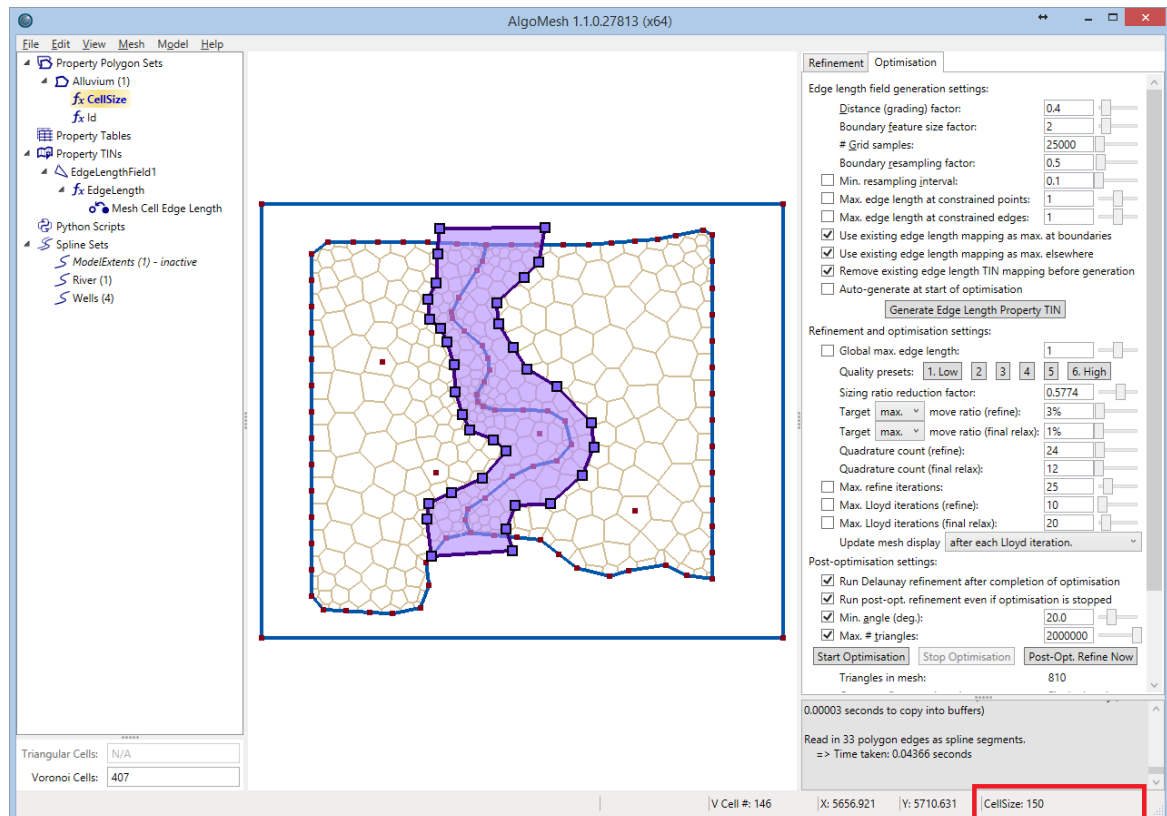

Figure 54: The value of the currently selected property at the mouse cursor position is shown on the right-hand side of the status bar.
- Now move the mouse cursor over the top of the alluvium polygon in the mesh view. You should see the value 150 displayed in the status bar in the bottom-right corner of the AlgoMesh window when the cursor is on top of the polygon. When the cursor is outside the polygon, you will see "Outside (0)" displayed instead, indicating that this property has no value outside the polygon. Figure 54 shows the property value displayed in the status bar, outlined in red on the figure.